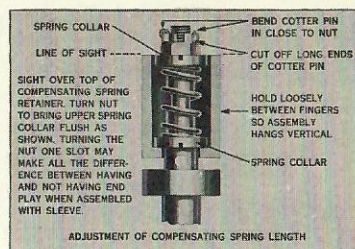

FIG. 17-1
Adjust compensating spring length as shown in Fig. 17-1. The collar must be exactly flush with the top of the spring retainer.
7. Insert 1/16" cotter pin through castle nut and secure. Cut off ends as shown in Fig. 17-1.
10. If lost motion or end play is detected, it indicates the nut is incorrectly adjusted and should be readjusted as shown in Fig. 17-1. The upper spring collar must be exactly flush with the end of the spring retainer.